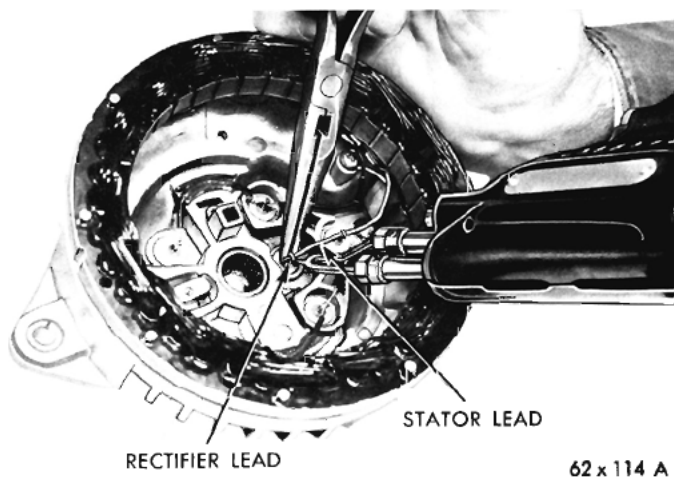

Fig. 36—Soldering Rectifier and Stator Leads
(4) Clean the leads and mate the stator lead with the rectifier wire and bend the loop snugly around the stator lead to provide a good electrical and mechanical connection. Solder the wires with resin core solder. Hold the rectifier lead wire with pliers just below the joint while soldering, Fig. 36. The pliers will absorb the heat from soldering and protect the rectifier.